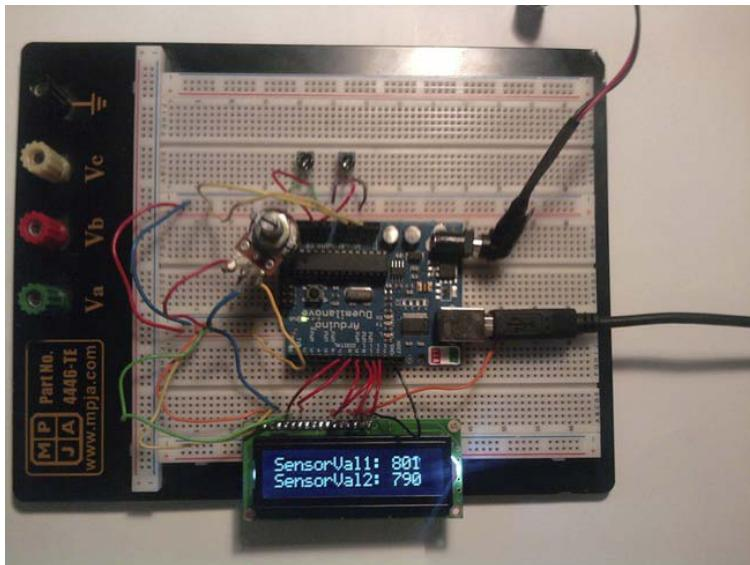

Figure 4-5. Hardware configuration for this project
9. Then, connect the second potentiometers wiper to analog pin 2 and the other two to power (+5V) and ground. Figures 4-5 and 4-6 illustrate the hardware configuration.